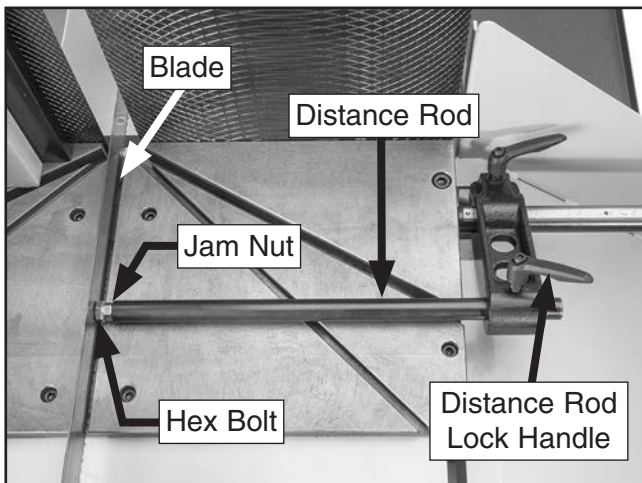

Figure 55. Work stop adjusted to "0", touching blade.
6. Tighten bracket lock handle to secure at 0" (see **Figure 55**).
7. Loosen distance rod lock handle and adjust distance rod until hex bolt on rod just touches blade (see **Figure 55**).
- Confirm hex bolt still touches blade. If it does not, adjust hex bolt until it does, then tighten jam nut to secure setting (see **Figure 55**).